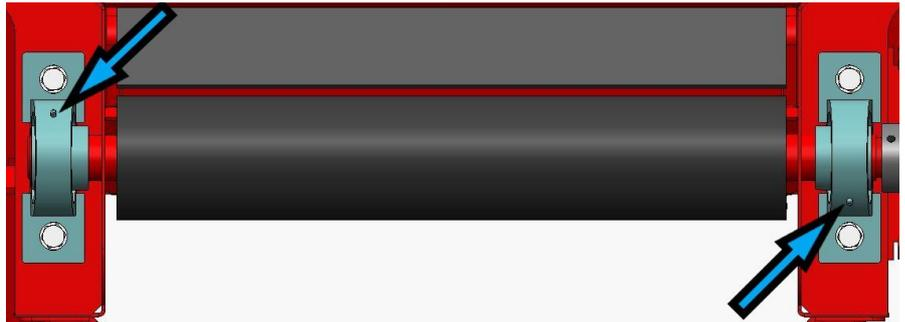

Figure 46.
6. Grease nipples of the out-feed conveyor bearings (2 pcs, Figure 46).